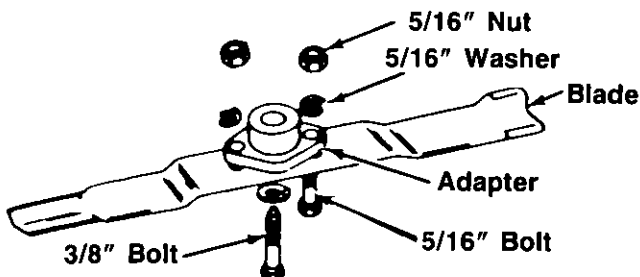

FIGURE 27.
1. Remove the large bolt and lock washer which holds the blade and adapter to the blade spindle. See figure 27.
- If the blade or blade adapter needs replacing, remove the two small bolts, lock washers and nuts which hold the blade to the adapter. See figure 27.